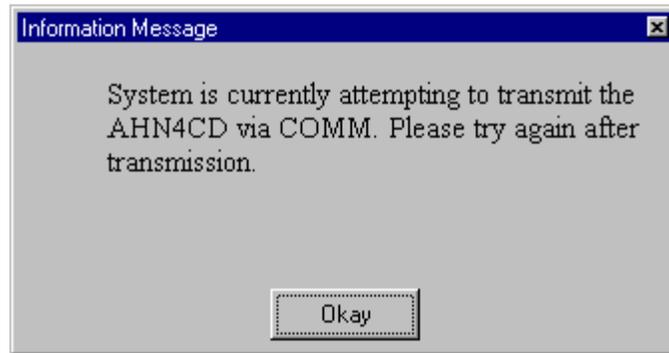

FIGURE 4, System attempting to transmit
7. If the SAMS-1 user attempts to run the Extract program again, and it is still in the Comm Queue with a blank Entry Status, he will receive the message in FIGURE 4.